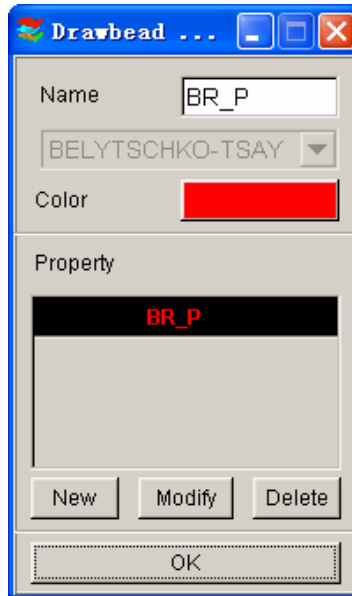

Figure 9.4.5 The Drawbead Property dialog window.
2. Select the property color from the DRAWBEAD PROPERTY dialog window as shown in Figure 9.4.5
The DRAWBEAD PROPERTY dialog window is shown in Figure 9.4.5. This function enables the user to create or edit drawbead properties. The functions of the buttons (NEW, MODIFY, DELETE) in this dialog